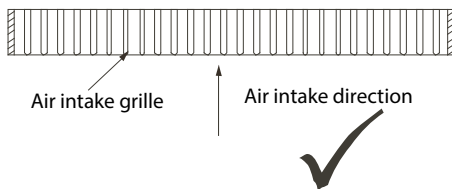

Figure 3.9
1. When making the air intake panel of the air return box, pay attention to maintain the parallelism between the air intake grille angle and the air intake direction. Refer to Figure 3.9.